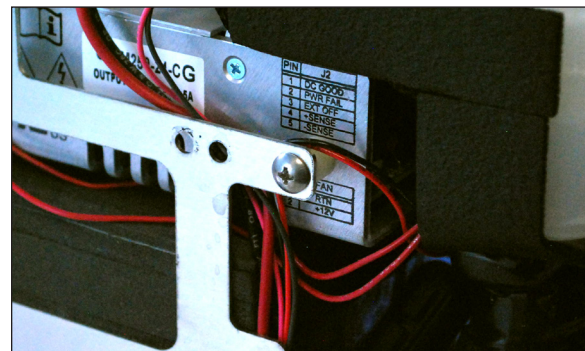

Figure 54 - Step 6 Route wiring behind bracket
6. Route the float switch cable between the front thermoelectric subassembly bracket and the power supply (Figure 54).